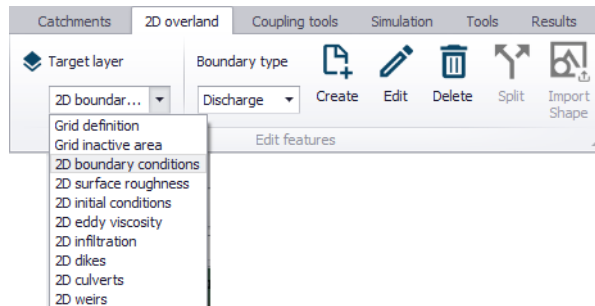
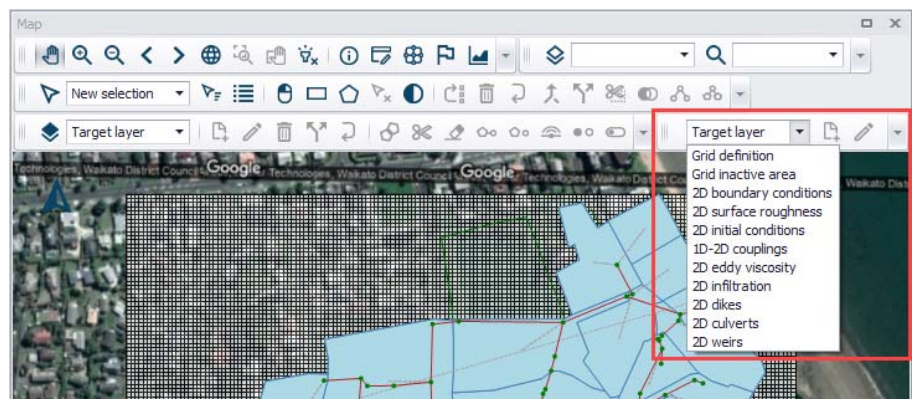

Figure 4.2 The Edit features toolbox on the 2D Overland menu ribbon
Figure 4.3 The Flooding Layer Editing Tools toolbar on the Map
2. Define 2D model boundary sections on the Map via the Edit Features toolbox on the 2D Overland menu ribbon (Figure 4.2) or the Flooding layer editing tools toolbar on the Map (Figure 4.3).